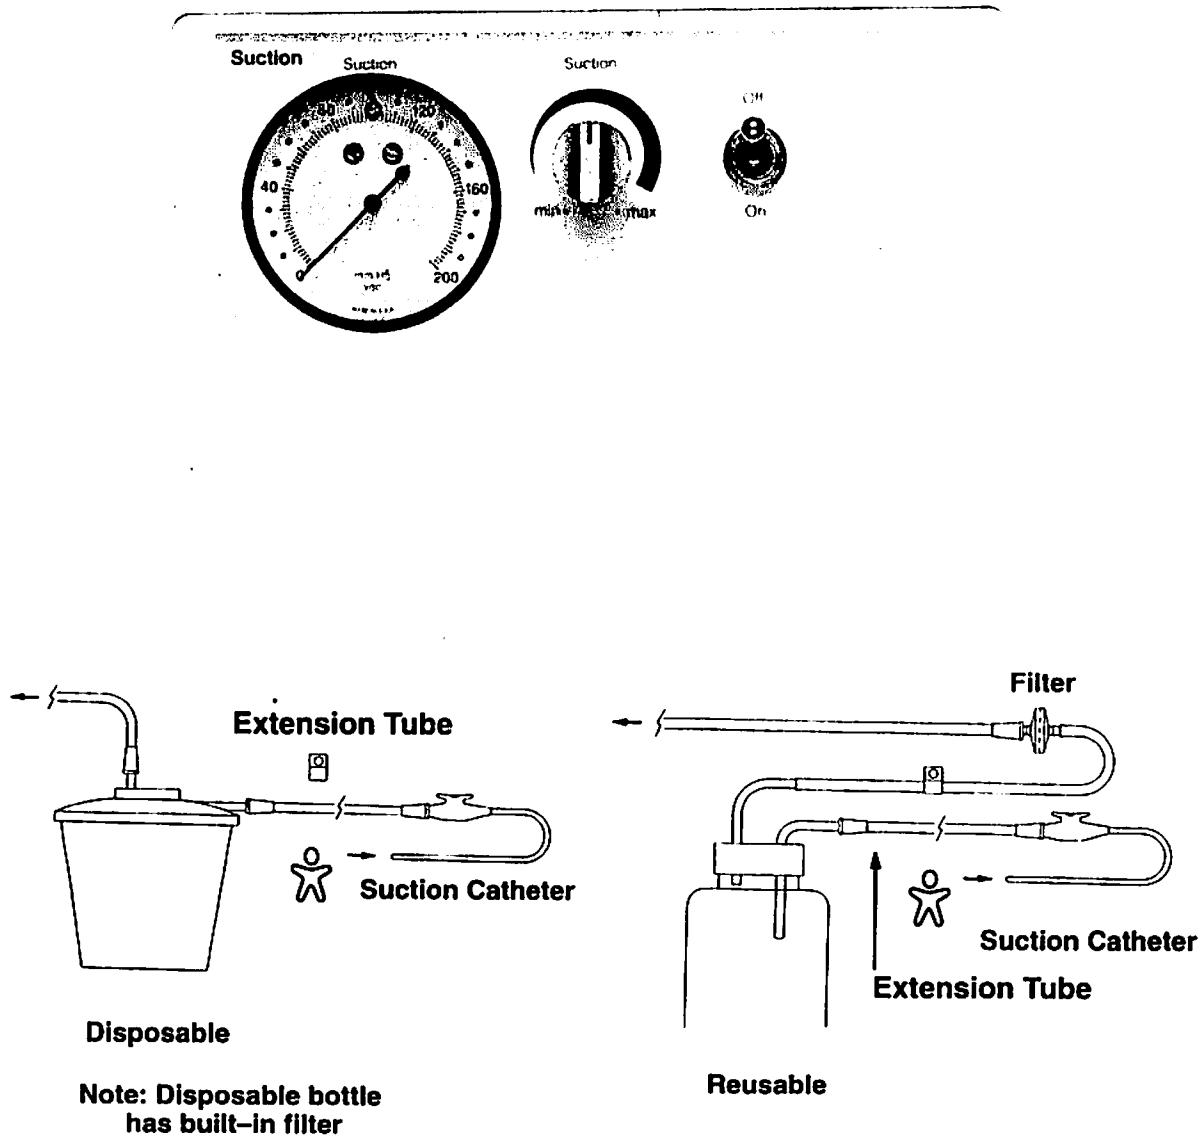

FIGURE 3.1 SUCTION FUNCTIONAL BLOCK DIAGRAM
- **Suction** – The **Suction Circuit** is driven by a gas powered venturi actuated vacuum generator which provides a negative pressure for suctioning the patient's airway. The suction pressure is indicated on the **Suction Gauge** (Figure 3.1). Suction may be adjusted using the **Suction Control** and turned on or off using the **On/Off Switch**. A fixed internal relief valve limits the maximum suction pressure to 150 mmHg.